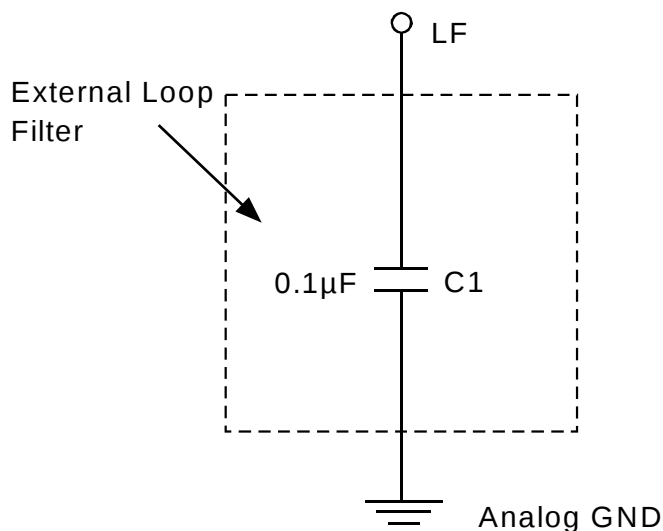

Figure 2. Loop Filter Connection
- Note 8 in "General AC Specification Notes" and Figure 2 describes this specification and its actual limits depending on the feedback connection.
- With V_{CC} fully powered-on and an output properly connected to the FEEDBACK pin. t_{lock} Max. is with C₁ = 0.1μF, t_{lock} Min. is with C₁ = 0.01μF (where C₁ is loop filter capacitor shown in Figure 2).
9. The **t_{PD}** spec describes how the phase offset between the SYNC input and the output connected to the **FEEDBACK** input varies with process, temperature, and voltage. The phase measurements were made at 1.5V. The Q/2 output was terminated at the **FEEDBACK** input with 100Ω to V_{CC} and 100Ω to ground. **t_{PD}** measurements were made with the loop filter connection shown in Figure 2 below: